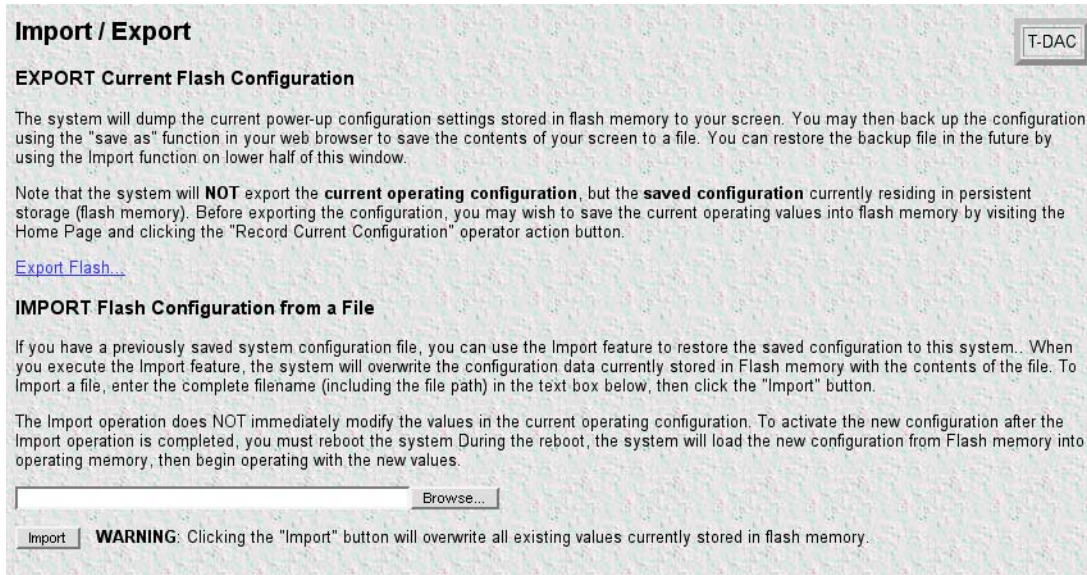

Figure 51. IMPORT/EXPORT page
1. On the Configuration Menu pane, click the *Import/Export* hyperlink to display the **IMPORT/EXPORT** page (see figure 51).